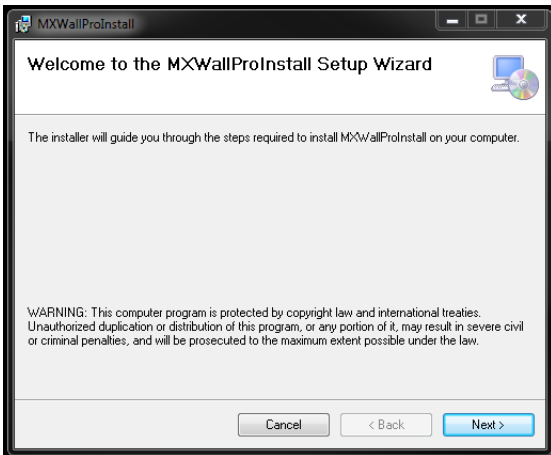
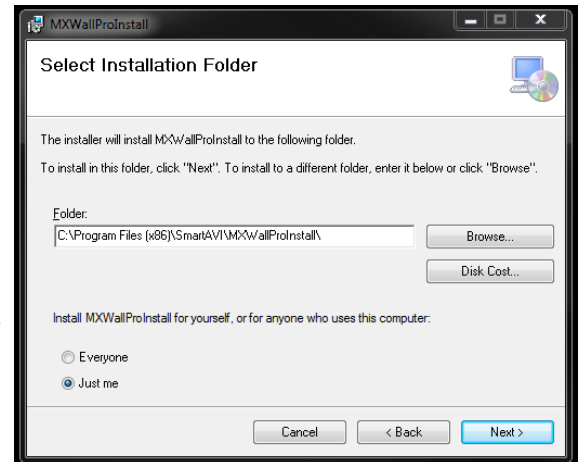

Figure 8-1
Figure 8-2
2. A Setup window will pop open. Click 'Next >' to continue (Figure 8-1). Subsequently select where you would like to save MxWallPro and who the users will be and click 'Next >'. (Figure 8-2)